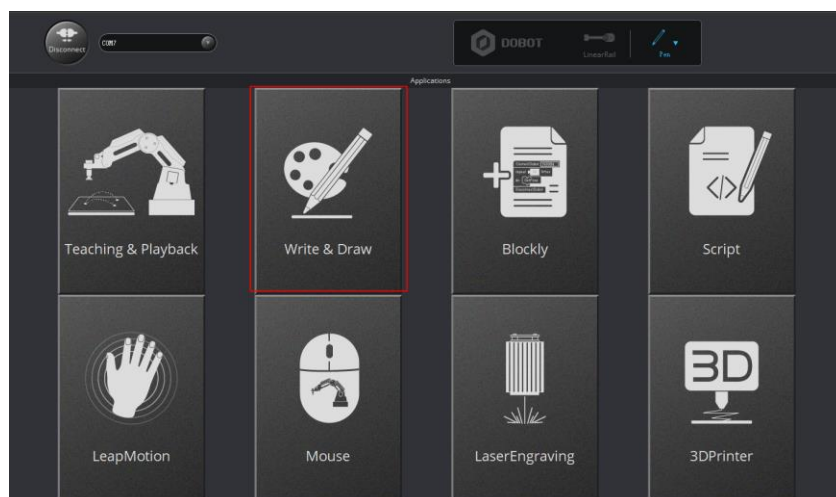

Figure 5.42 Click Write & Draw
Step 3 Click **Write & Draw**, as shown in Figure 5.42.